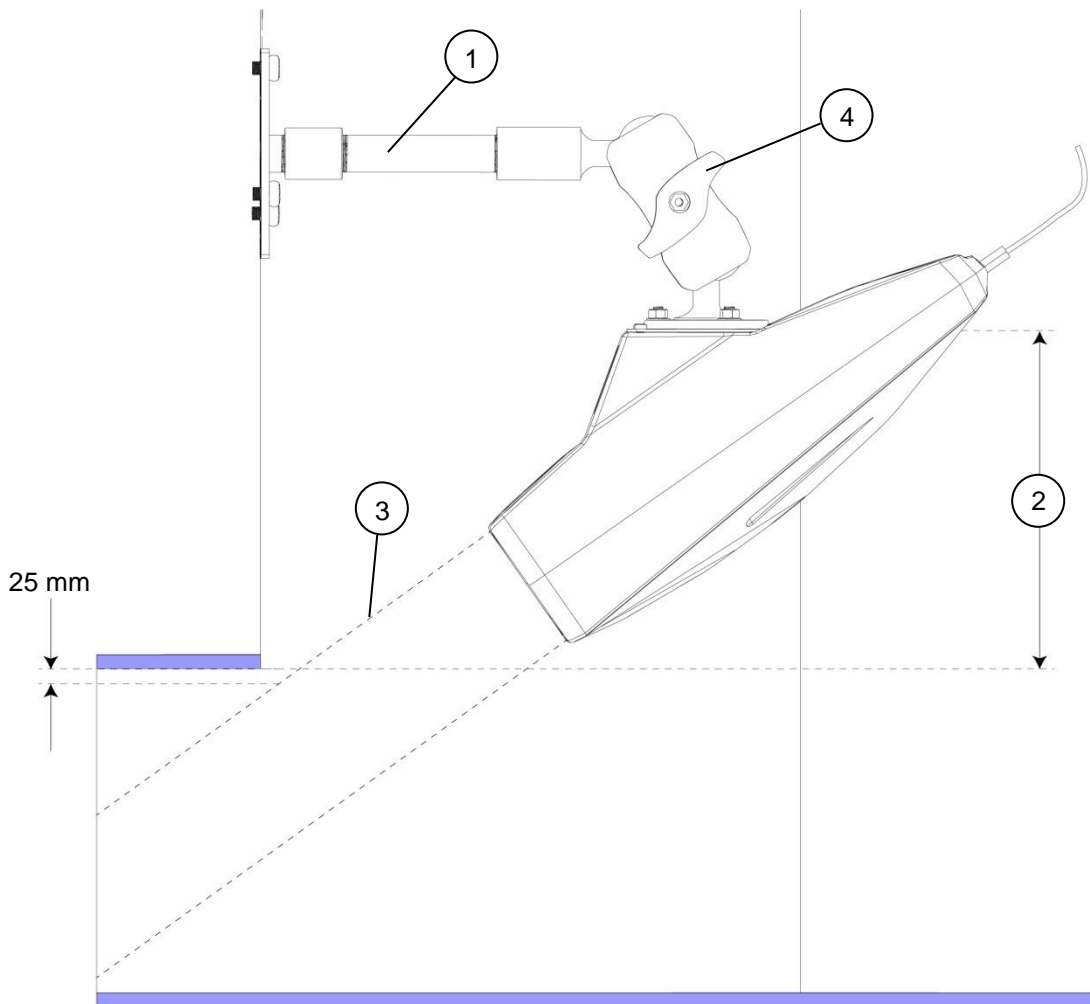
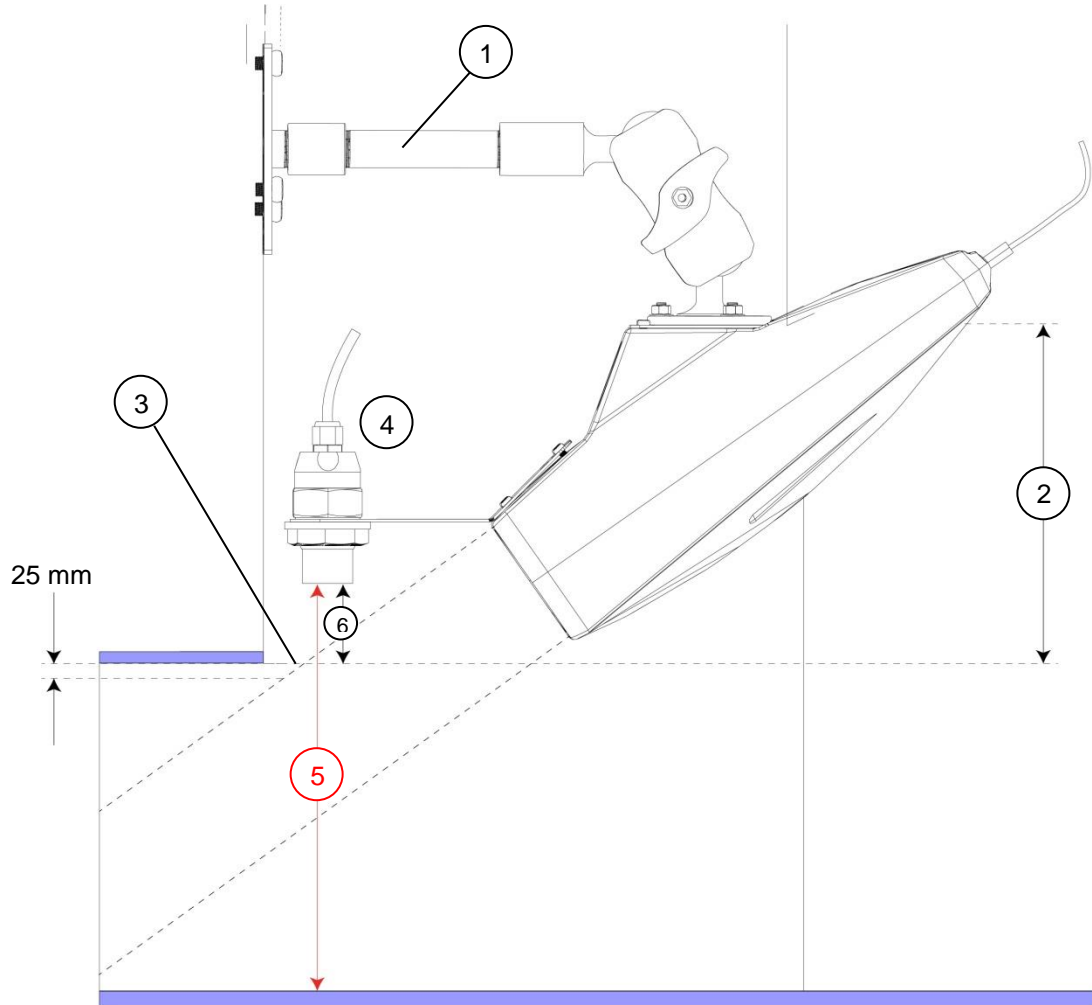

Figure 16: Vertical alignment of the RAVEN-EYE® sensor
Figure 18: Vertical alignment of the RAVEN-EYE® sensor with attached level sensor
2. Make sure that when the sensor is in position, the radar beam will not be blocked by the wall or channel. Refer to Figure 16 or Figure 18.
The sensor must be aligned vertically to make sure that the sensor is above the flow and that the radar beam will not be blocked by the wall or pipe (Figure 16).
1. Make an estimate of where a line that extends from the top of the radar lens perpendicular to where the lens will point (Figure 16).
2. Loosen the wing nut on the ball mount hardware and position the frame so that the radar beam will point below the crown of the pipe by at least 25 mm (Figure 16). It may be necessary to install the 200 mm or the 300 mm (optional) spacer to position the RAVEN-EYE® farther from the wall.
The sensor must be aligned vertically to make sure that the sensor is above the flow and that the radar beam will not be blocked by the wall or pipe (Figure 18).
1. Make an estimate of where a line that extends from the top of the radar lens perpendicular to where the lens will point (Figure 18).
2. Loosen the wing nut on the ball mount hardware and position the frame so that the radar beam will point below the crown of the pipe by at least 25 mm (Figure 18). It may be necessary to install the 200 mm or the 300 mm (optional) spacer to position the RAVEN-EYE® farther from the wall.